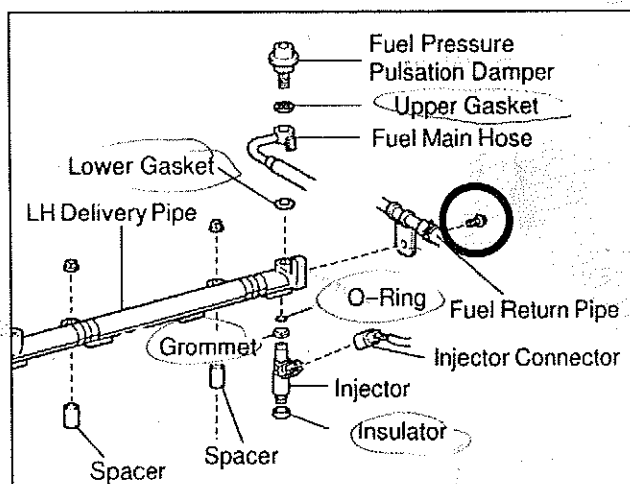

Figure 15
23. Remove the Fuel Pressure Pulsation Damper from the LH Delivery Pipe & Fuel Main Hose (Figure 15). Use caution so as not to lose the washers (gaskets). Remove the bolt connecting the Fuel Return Pipe to the LH Delivery Pipe (Figure 15). Set the Fuel Main Hose aside.